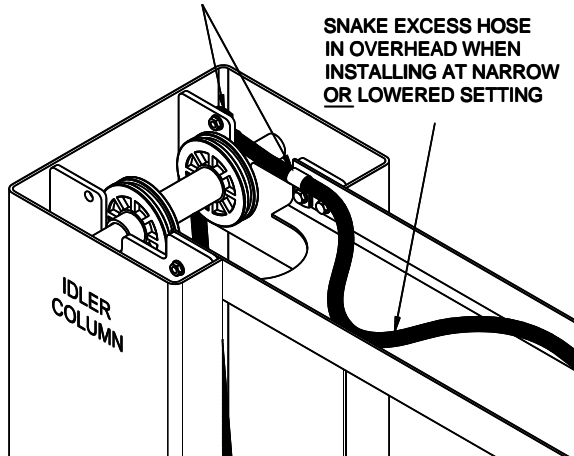
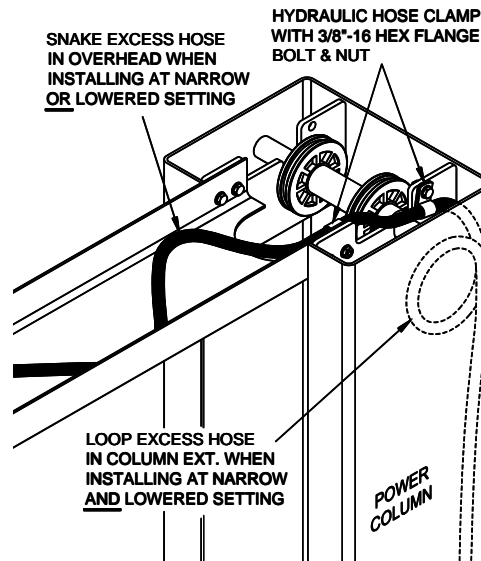

Fig 11a – Hydraulic Hose from Idler Column to Overhead.
Fig 11b – Hydraulic Hose from Overhead to Power Column.
- 27) From Idler Column route the hydraulic hose (*factory installed from cylinder to top of column*) up to Overhead. LOOSEN FACTORY INSTALLED CLAMP AT TOP OF IDLER COLUMN AND GENTLY PULL UP ANY SLACK FROM HOSE. Install a hose clamp in column extension and in overhead beam with (1) 3/8"-16 x 3/4" lg. hex flange bolt and hex flange nut per clamp as shown in **Fig 11a**.
- 29) While gently pulling slack up from the "T" fitting to the top of the power column extension, **twist the hose until it lays flat in the overhead beam.** (*When installing lift at narrow or low setting, excess hose should be snaked in bottom of overhead, Fig 11a. When installing at narrow and low setting, form a loop in the column extension between the overhead support plate and the inside wall of the column extension, Fig 11b.*) Install hose clamps identical to idler side, one hose clamp at the top of the column, one at the top of the column extension and one at the end of the overhead. **Fig 11b**. Tighten connection at "T" fitting.